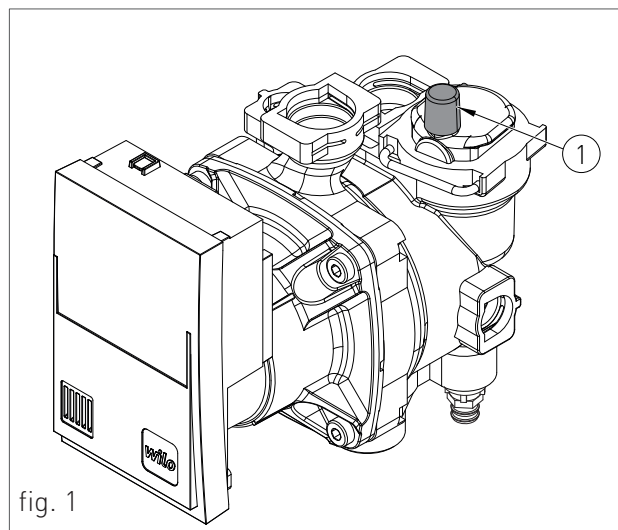

fig. 1
2. slightly loosen the cap of the circulator jolly valve (1-fig. 1) to release the air from the system;
8. unscrew the circulator cap (2-fig.1) to release any air bubbles and close it to prevent water leakage;